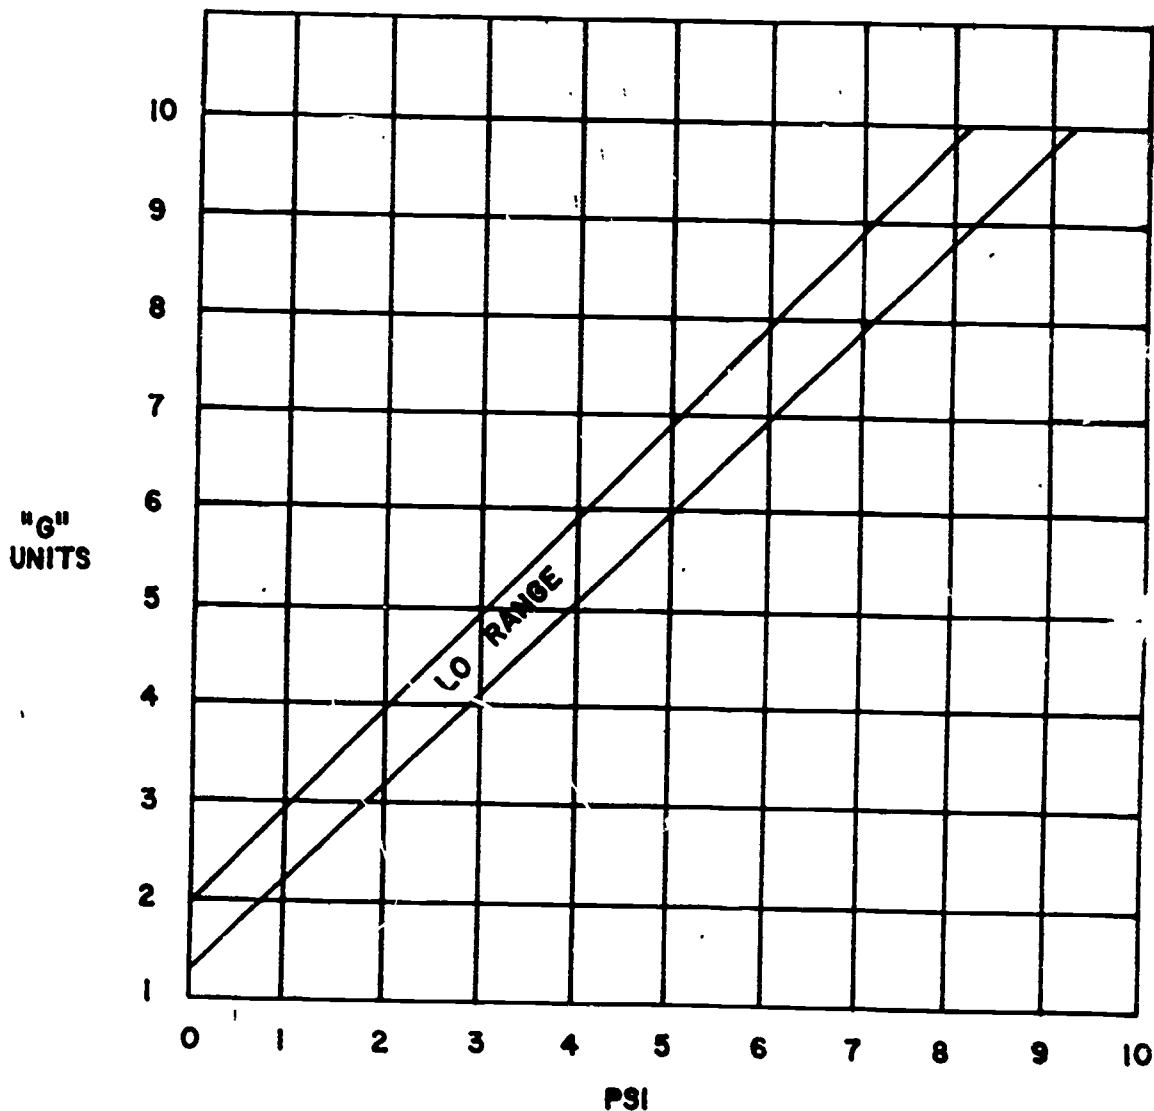

Figure 8. LO Range Graph.
7. Refer to figure 8 of this text. The LO Range Graph indicates the air pressure required for a given number of "G" units. The pressure indicated by manometer M4 should fall between the two diagonal lines. The vertical lines indicate the value of the weights (G units) placed on the push-to-test button. Read from this line horizontally to the pressure (psi) indicated by manometer M4. If the manometer pressure indication does not fall between the diagonal lines, an adjustment must be made to the demand valve.